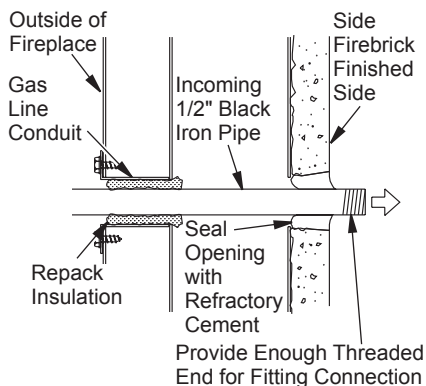

Figure 20 - Gas Line Installation
3. Run a 1/2" black iron gas line into the fireplace through the rear at gas line conduit sleeve (if using a raised platform, add height). Provide sufficient gas line into fireplace chamber for fitting connection (see Figure 20, page 12).